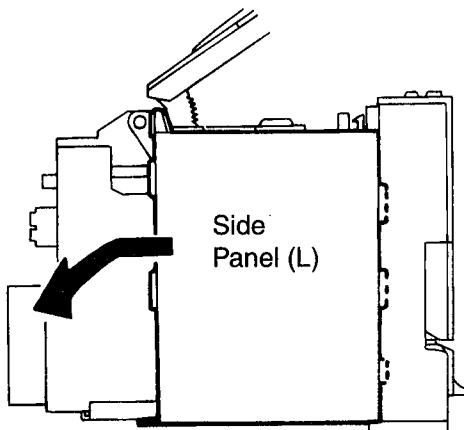

Fig. 5
3. While moving the side panel (L) in the arrow direction, remove the panel from the left side of the body (See Fig. 5).